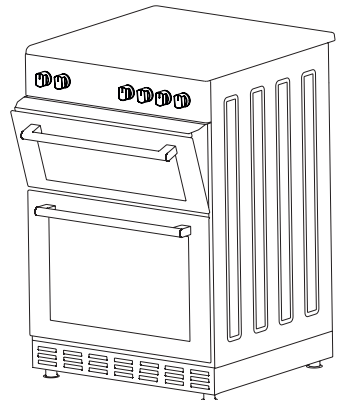

Figure 33
4. And then secure the safety panel in between oven and front cover by gently closing the cover. (figure 33)